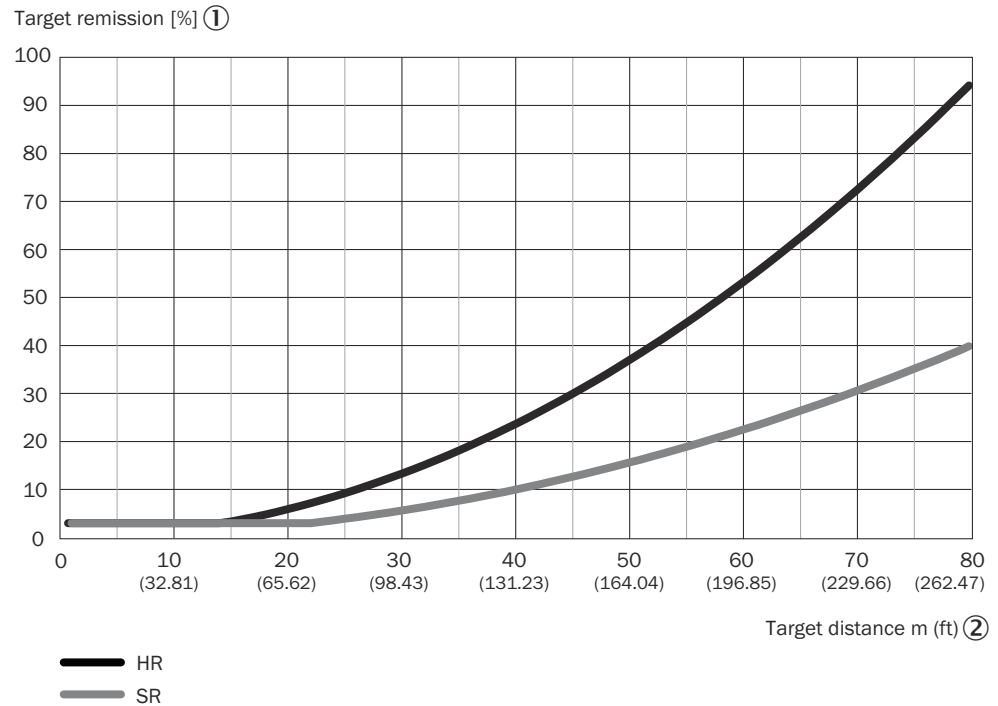

Figure 14: Scanning range as a function of the target remission
- ① Remission factor of the target [%]
- ② Object distance [m]
Example for see figure 14, page 26: Up to a distance of 15 m, the LMS5xx (HR) can detect objects with a remission factor of 3% or higher. At a distance of 80 m, only objects with a remission factor > 95% are detected reliably.